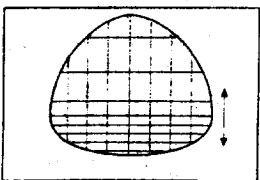

Fig. 8
- Adjust the vertical symmetry to obtain symmetrical scanning between upper and lower picture (fig. 8).